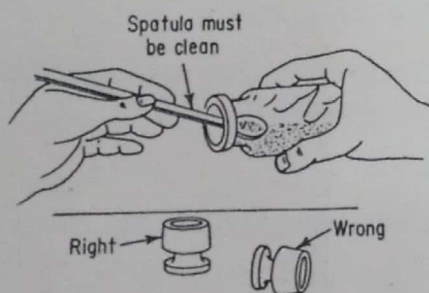

FIGURE 3.4
2. Use an *absolutely clean spatula* and dig out material, always laying the stopper upside down on the desktop. (See Fig. 3.4.)